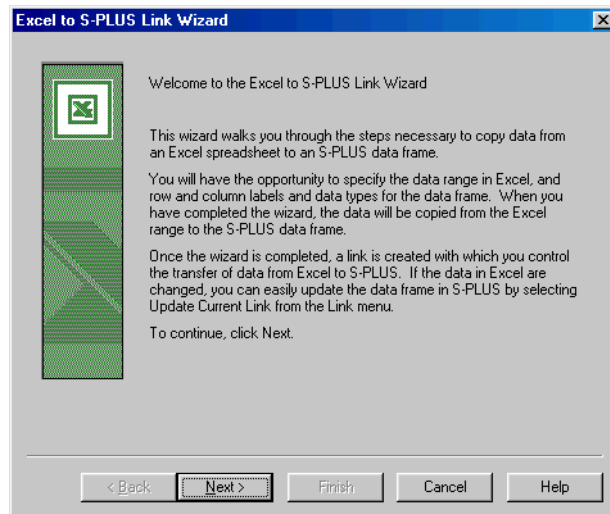

Figure 10.3: *The Excel to S-PLUS Link Wizard.*
2. Click the **Excel to S-PLUS Link Wizard** button  on the **Excel Sheet** toolbar or choose **Links ► Link Wizard** from the main menu. The **Excel to S-PLUS Link Wizard** opens, as shown in Figure 10.3.
2. With the **Data** window displaying your S-PLUS data frame in focus, click the **S-PLUS to Excel Link Wizard** button  on the **Data** window toolbar or choose **Link Wizard** from the **Edit** or shortcut menu. The **S-PLUS to Excel Link Wizard** opens, as shown in Figure 10.3.